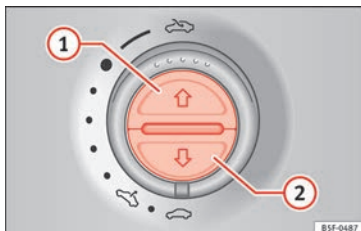

Fig. 141 On the interior roof lining: switches for the sun blind.
Opening completely (automatic function)	Press button » Fig. 141 ① briefly.
- The switch should be in the “closed position” »  **page 18 ①**.
- *Panoramic sliding sunroof:* Within five seconds of triggering the anti-trap function, pull the control all the way back »  **page 18 (arrow ⑤)** until the panoramic sliding sunroof closes fully.
- *Sun blind:* Within five seconds of triggering the anti-trap function, press button » **Fig. 141 ②** until the sun blind closes fully.